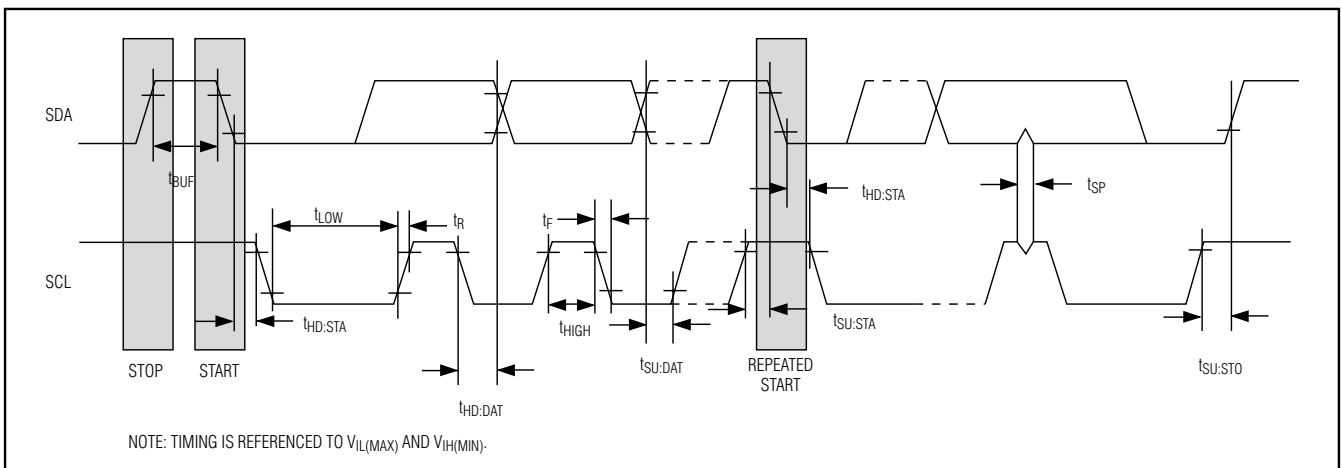

Figure 3. I2C Timing Diagram
setup and hold time requirements (Figure 3). Data is shifted into the device during the rising edge of the SCL.
**Bit read:** At the end a write operation, the master must release the SDA bus line for the proper amount of setup time (Figure 3) before the next rising edge of SCL during a bit read. The device shifts out each bit of data on SDA at the falling edge of the previous SCL pulse and the data bit is valid at the rising edge of the current SCL pulse. Remember that the master generates all SCL clock pulses, including when it is reading bits from the slave.
**Acknowledgement (ACK and NACK):** An acknowledgement (ACK) or not acknowledge (NACK) is always the 9th bit transmitted during a byte transfer. The device receiving data (the master during a read or the slave during a write operation) performs an ACK by transmitting a zero during the 9th bit. A device performs a NACK by transmitting a one during the 9th bit. Timing (Figure 3) for the ACK and NACK is identical to all other bit writes. An ACK is the acknowledgment that the device is properly receiving data. A NACK is used to terminate a read sequence or as an indication that the device is not receiving data.